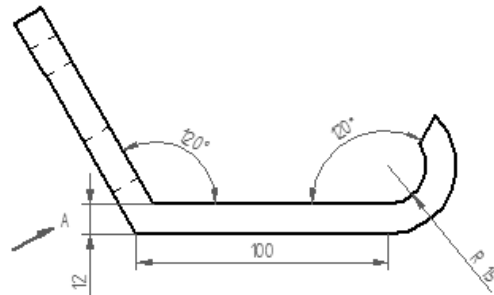

Figure 12-42 Front view after placing the missing dimensions
- Generate dimensions, refer to Figures 12-42 through 12-44.
6. Arrange the dimensions, as shown in Figure 12-42, using the dimensioning tools.